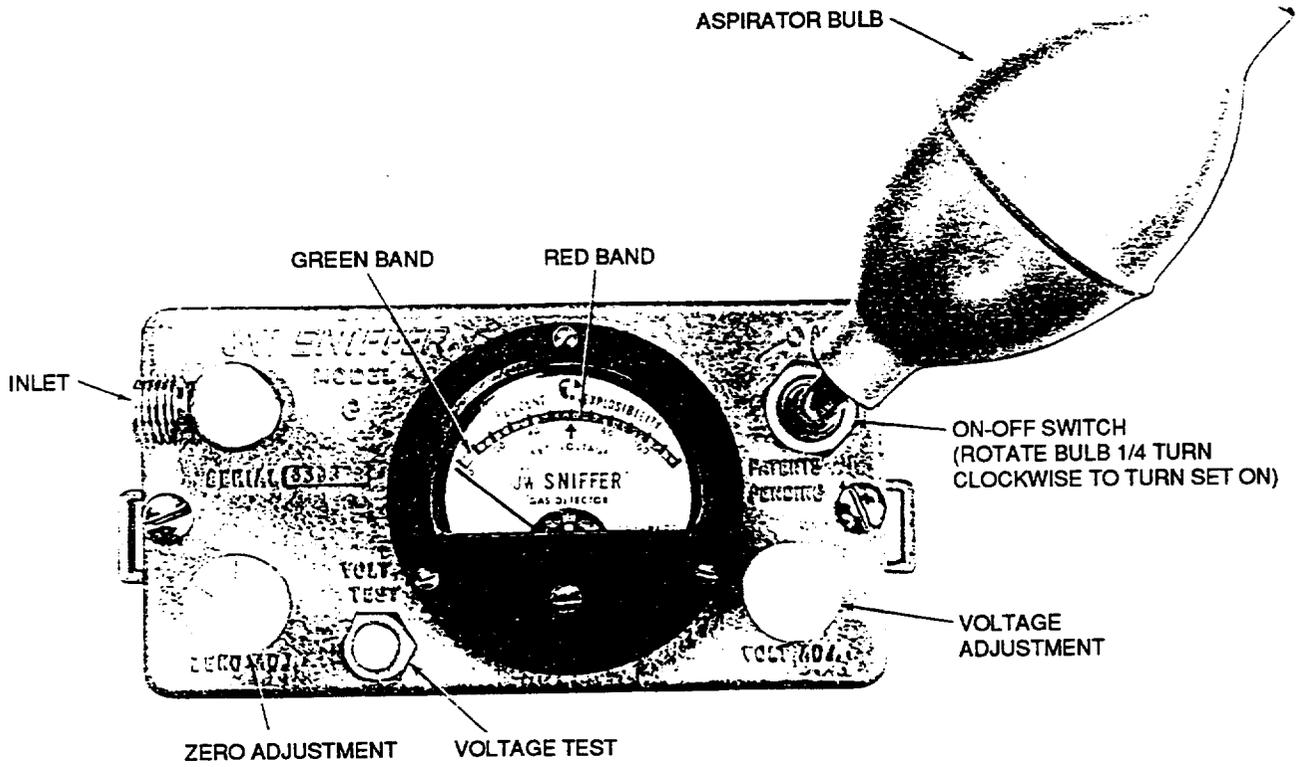

Fig. 5 - Superseded E Gas Indicator
7.01 The superseded E gas indicator (Fig. 5 and 6) uses a separate filter chamber (not shown in illustration), a voltage adjustment, a separate zero adjustment and has the on-off switch attached to the bulb.